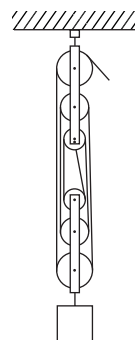

Figure 18.2
**Problem 5.** A pulley system consists of two blocks, each containing three pulleys and connected as shown in Figure 18.2. An effort of 400 N is required to raise a load of 1500 N. Determine (a) the force ratio, (b) the movement ratio, (c) the efficiency of the pulley system.